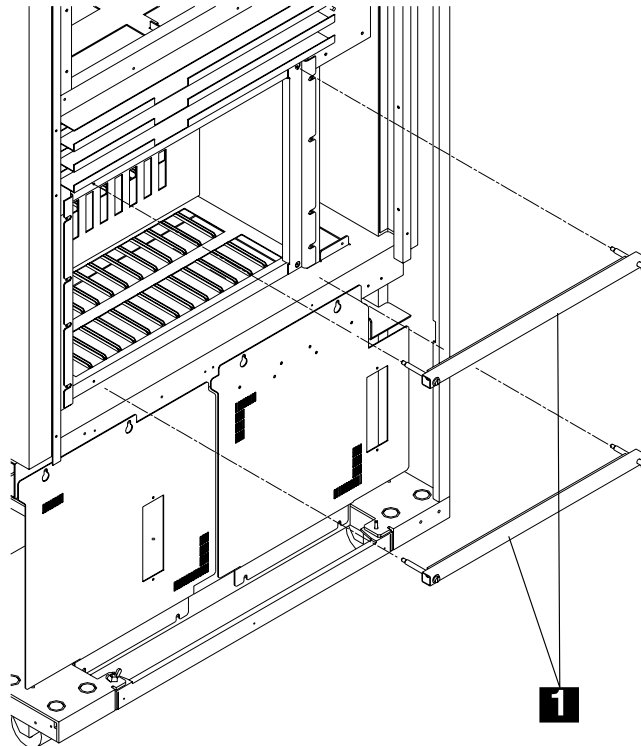

Figure 2-2. Shipping Bars
**Note:** These red shipping bars keep the cards in the boards during the transportation and are located on the upper and lower sides of the board (front and rear sides of the 3746-900) see Figure 2-2.